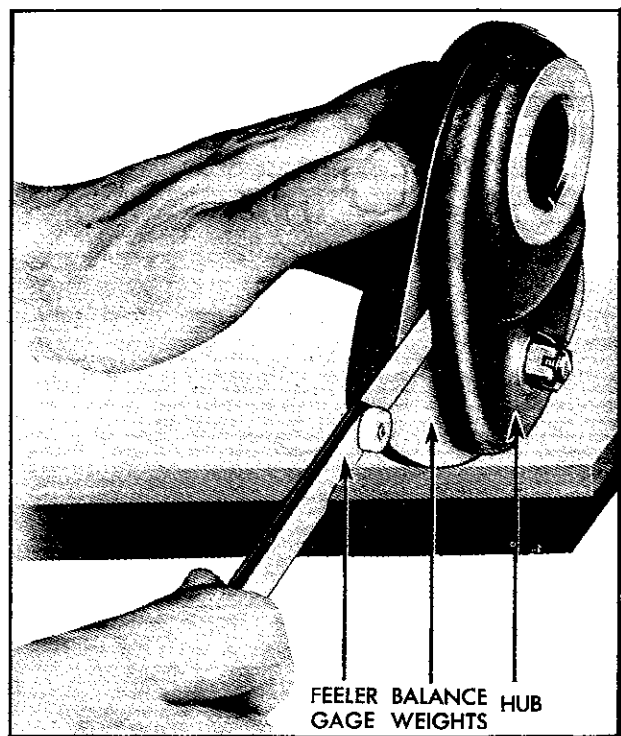

Fig. 8—Measuring Clearance Between Balance Weight and Hub—Six Cylinder.
9. Check clearance between weight and hub, as shown in Fig. 8. Clearance should be from .010" to .016". Adjust clearance by tightening or loosening castellated nut. Lock in position with cotter pin.